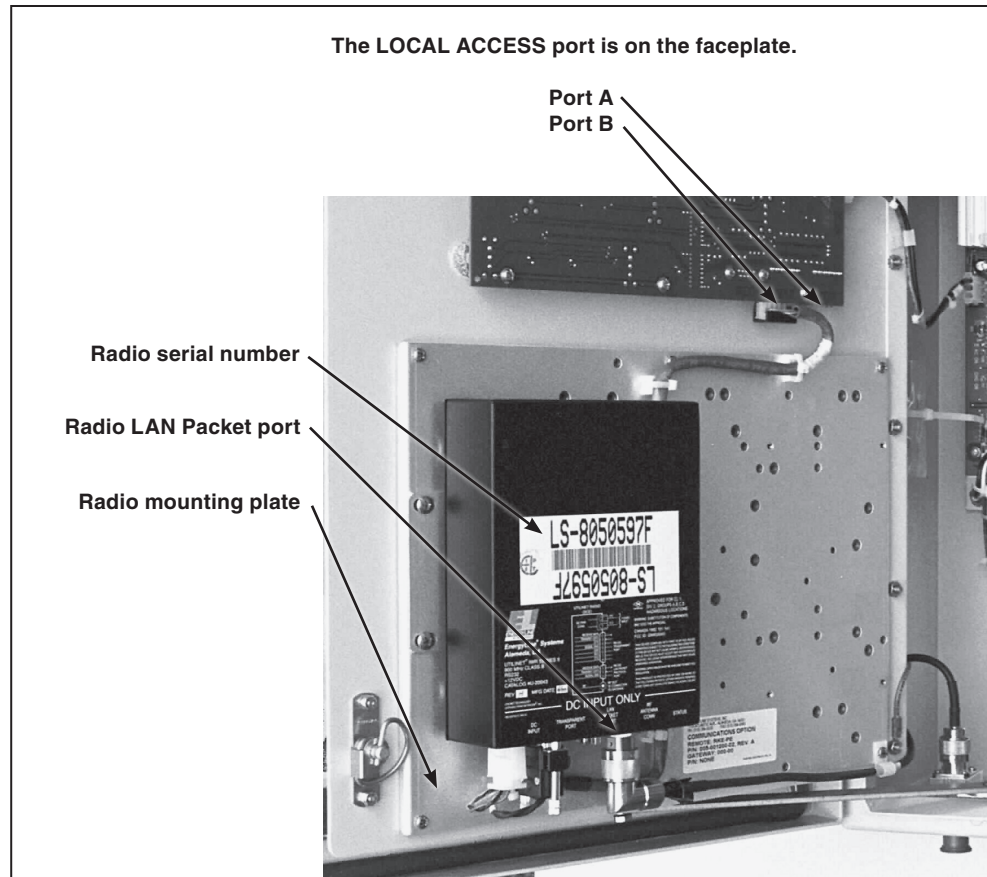

Figure 6. A UtiliNet radio with LAN Packet port installed in an S&C 5801 control.
The exact location of the radio in a control depends on the control type. For overhead switches, the radio is on the back of the faceplate. See Figure 6 on page 10.
STEP 1. Connect the computer to the LOCAL COMMUNICATION port on the switch control. See Figure 6 on page 10 for the port location.